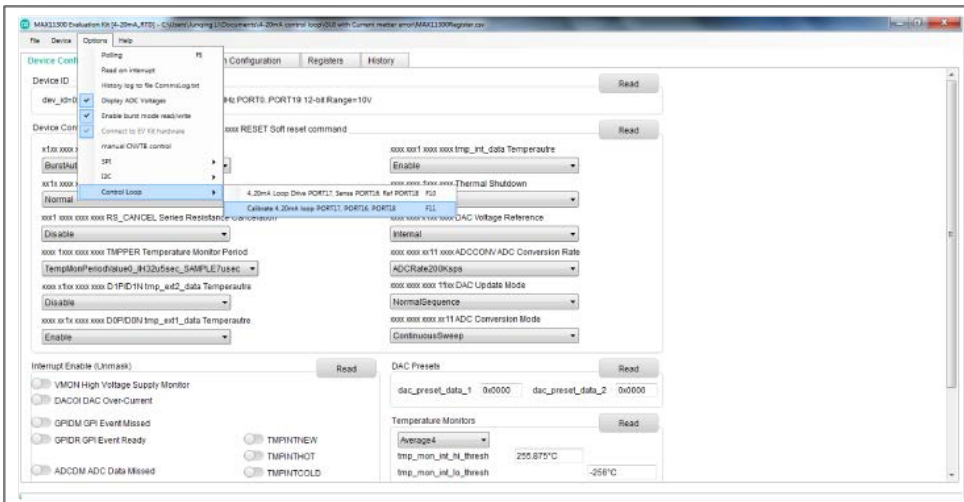

Figure 9. Calibration option.
12. To perform calibration, select Option > Control Loop and "Calibrate 4–20mA Loop Port17, 16, 18" from the drop-down menu as depicted in Figure 9.